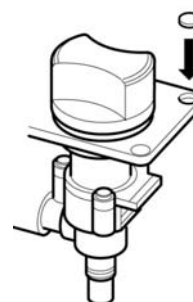

Fig. 2
4. Secure mounting plate with screws provided, concealing the screw heads using the screw covers provided (see Fig.2). If required the screw covers are easily removed using a pointed instrument to lever them off.